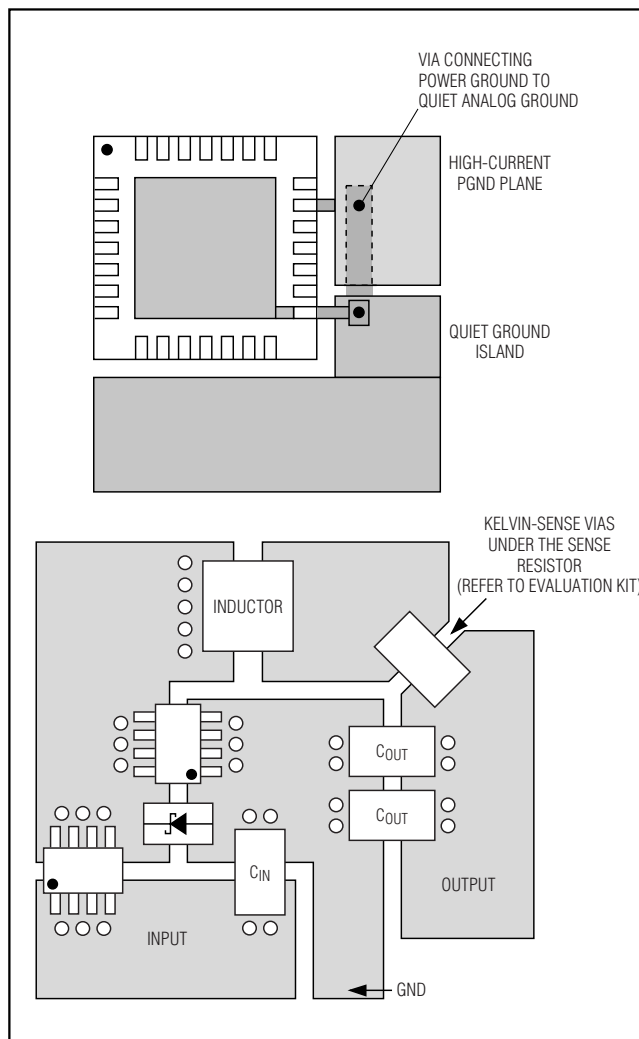

Figure 13. PC Board Layout Examples
- 5) Use a single-point star ground placed directly below the part at the PGND pin. Connect the power ground (ground plane) and the quiet ground island at this location. See Figure 13.